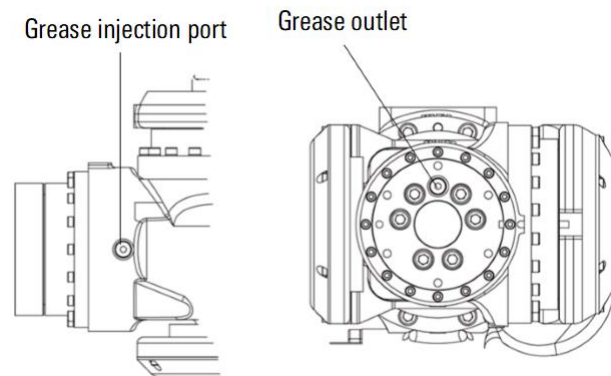

Figure 10-12 Replace the J6 axis reducer lubricating grease
- Step3. Remove the sealing screw of the grease injection port and the grease discharge port, as shown in Figure 10-12.